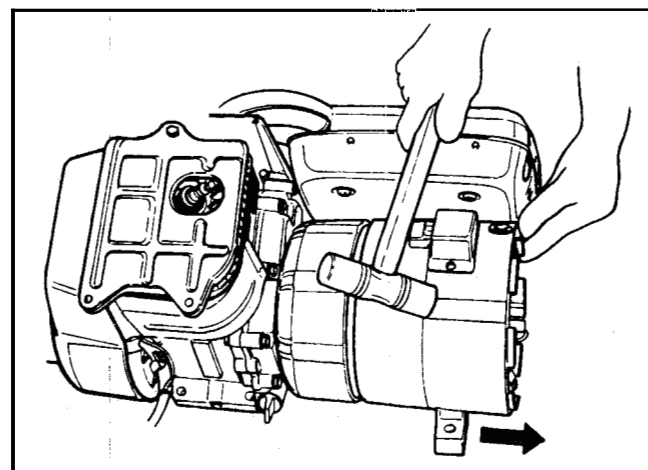

Figure 62
15. Use a plastic hammer to remove the end cover and stator assembly. See Figure 62.